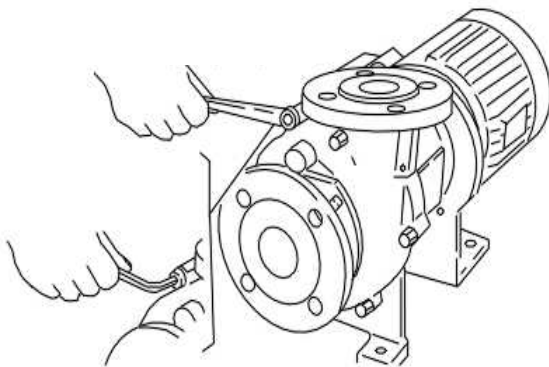

Figure 8
2. Remove the hex head or socket bolts (903.1 & 903.2) and pull the front casing straight forward to detach from the frame (19). [Fig. 8 & 9] Be careful not to damage the spindle when removing the front casing. The spindle may come off with the front casing. If this happens, take care to no lose the rear thrust collar (314.1).